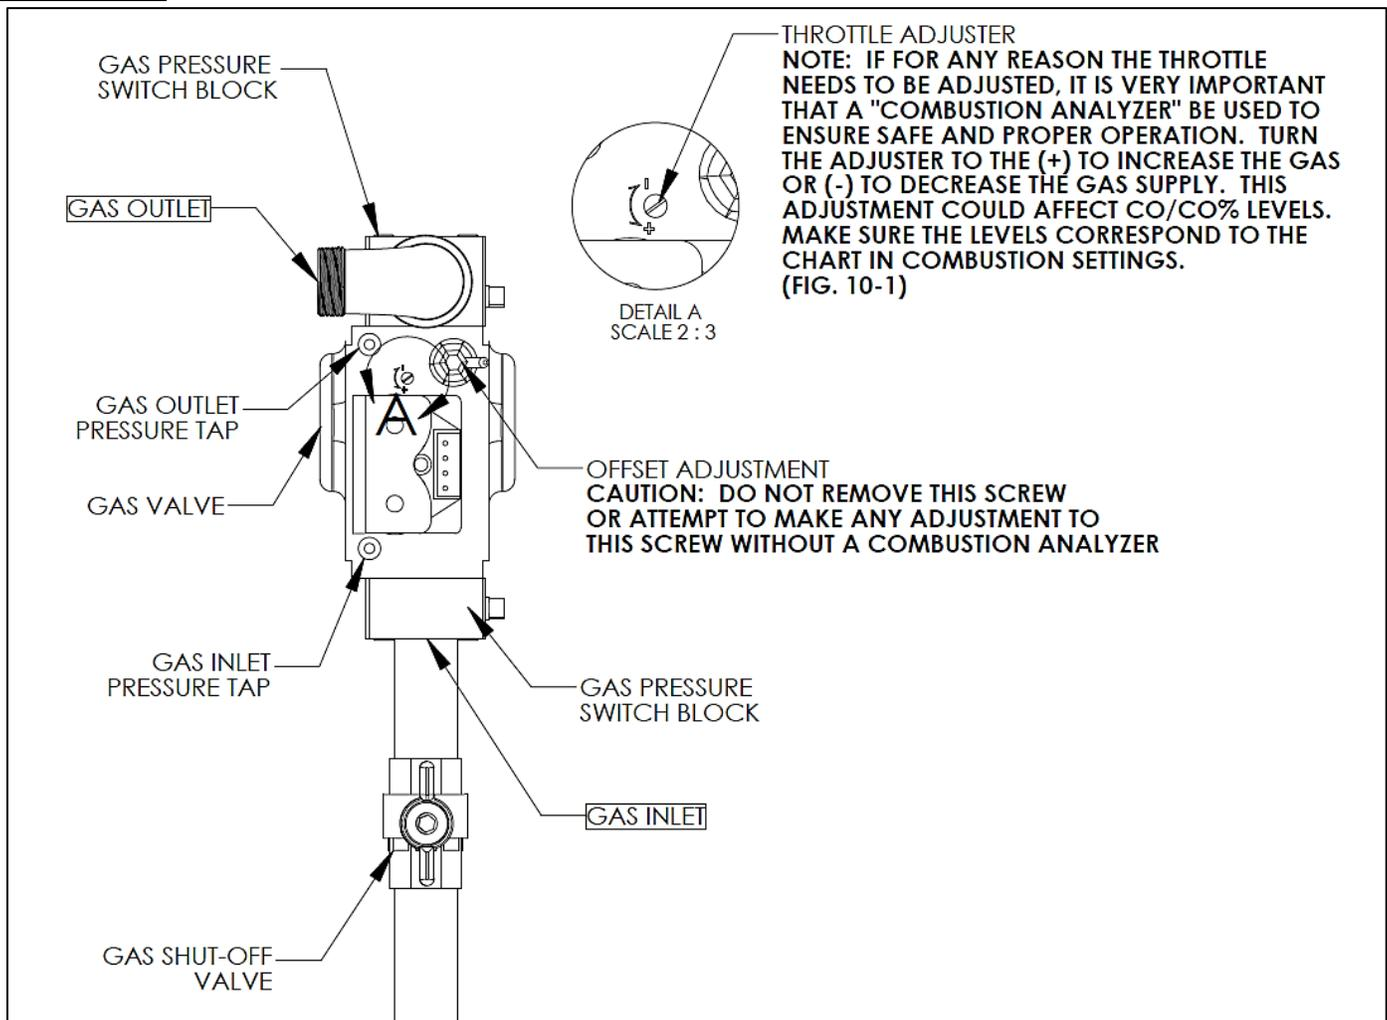

Figure 20 – Mod Con 300/500 Gas Valve
2. Loosen the pressure tap with a small screwdriver. Refer to Figs. 20 and 21 for locations.